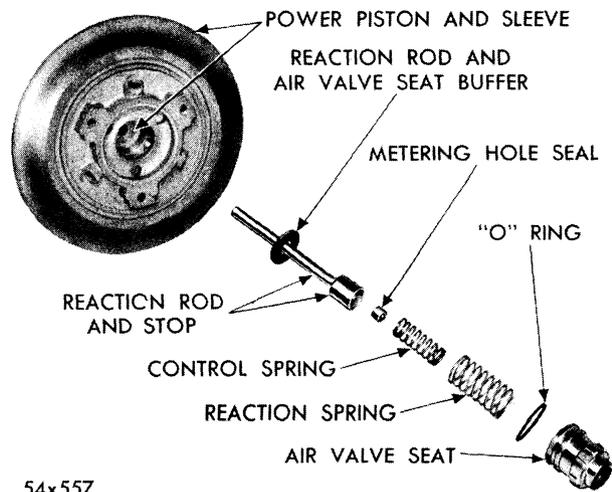

Fig. 80—Power Piston (Disassembled View)
- (7) Lift out reaction rod assembly. From reaction rod, remove and discard metering hole seal and buffer. (Refer to Fig. 80.)
- (7) Install NEW air valve seat “O” ring seal (pre-greased as received in kit) in groove on outside diameter of NEW air valve seat assembly. Use care to prevent silicone grease on seal.
- (8) Install complete air valve seat assembly in center of power piston cavity, over control spring reaction spring and reaction rod stop. Use a twisting motion as seal enters bore of power piston. (Refer to Fig. 80.) Use thumb pressure to test air valve seat against springs for freedom of movement.